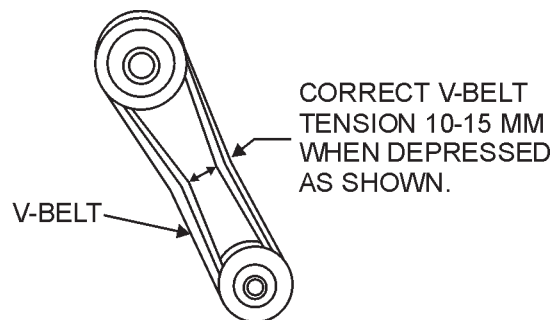

Figure 8. V-Belt Tension
2. The V-belt tension is proper if the V-belt bends 10 to 15 mm (Figure 8) when depressed with finger midway between the clutch and vibration pulley shafts.